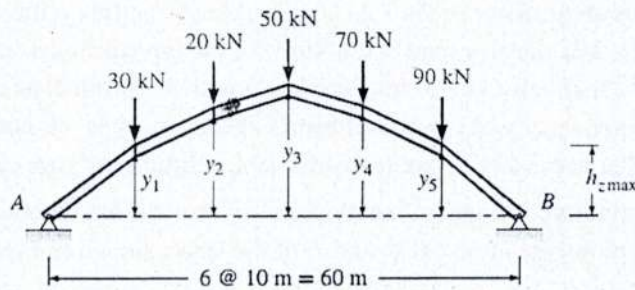

Figure: 7
5. (a) For the arch and loading in Figure 7, compute the reactions and determine the height of each point. The maximum height permitted at any point along the arch, h_{zmax} , is 20 m.